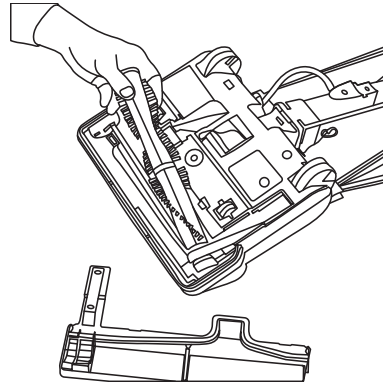

Fig. 13
2. Remove the brushroll and the worn or broken belt from the brushroll pulley and the motor drive shaft (Fig. 13).